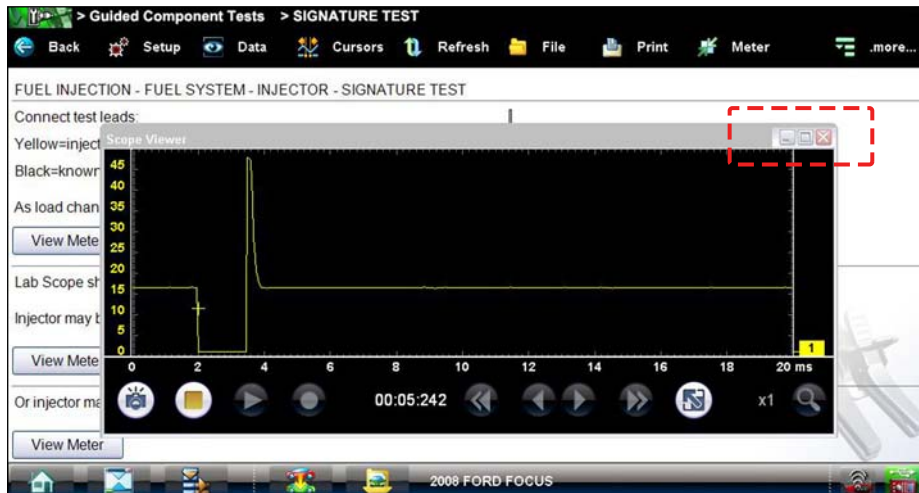

Figure 6-9 Sample meter view in a separate window
2. Select the **Meter** icon a second time and the meter opens as a separate window (Figure 6-9). This window can remain open if you switch to the Scan Module and can be accessed from the Windows toolbar at the bottom of the screen. You can also resize and reposition the meter window on the screen.